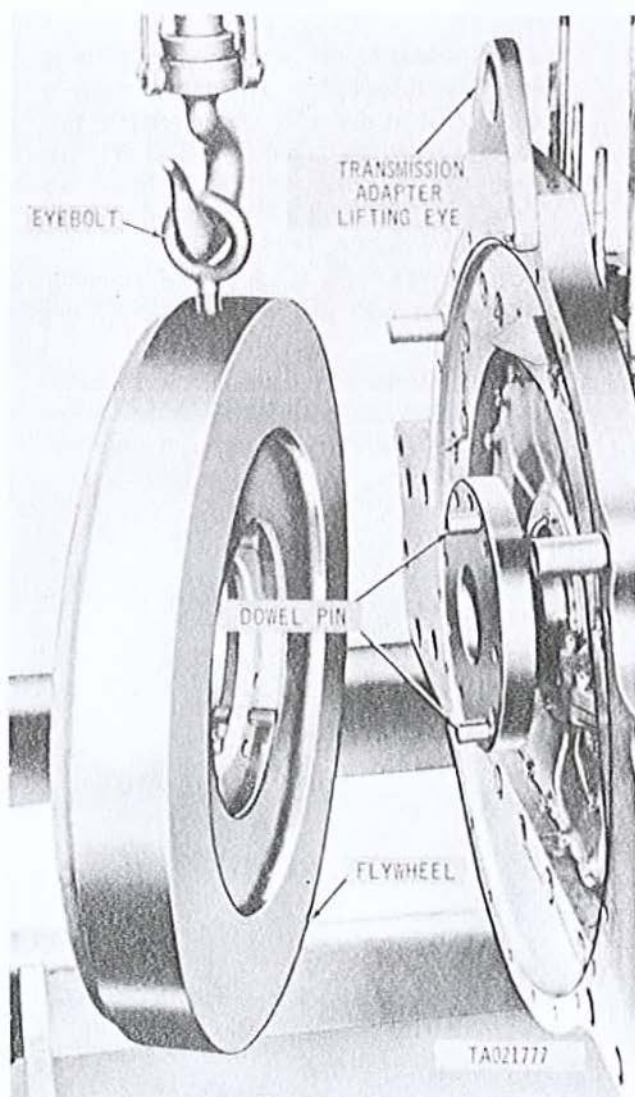

Figure 3-315. Installing flywheel using eye bolt, model AVDS-1790-2C and AVDS-1790-2D engines.
h. Install eye bolt MS51937-7 in threaded hole provided in flywheel (fig. 3-315). Attach a suitable
j. Install transmission drive spur gear on dowel pins (fig. 3-315) which protrude through flywheel and install three new lock plates (fig. 3-117) and secure lock plates, spur gear and flywheel to crankshaft with nine bolts. Alternately tighten bolts to 1000 pound-inches and secure bolts by bending tabs on three lock plates.